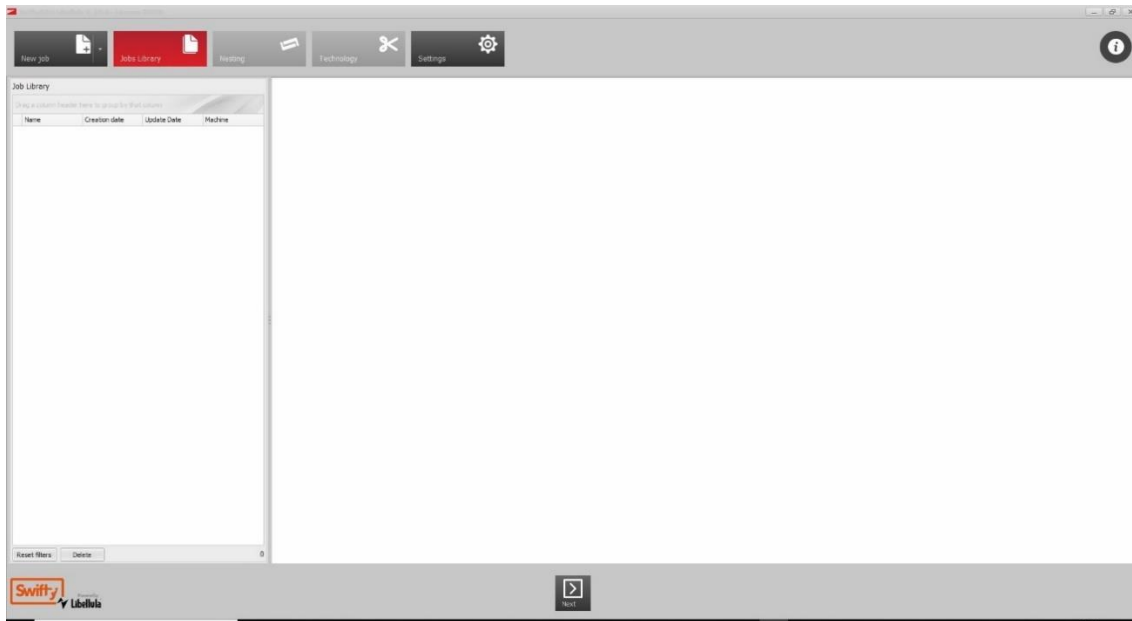

Fig 46 SwiftCAM application (Job Library)
1. From the desktop start the SwiftCAM application (double-click the SwiftCAM icon). Once the application has loaded, it will display the Job Library page (Fig 46).